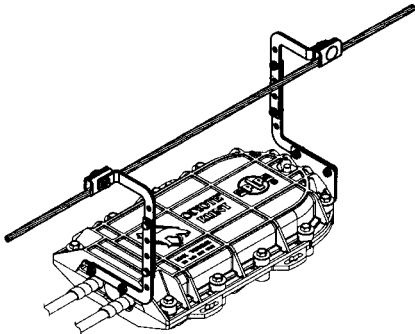

FIGURE 31 - STRAND MOUNT
15.01 The Adjustable Aerial Hanger Bracket Kit (cat. no. 8003467) is used to attach the closure to a messenger strand. (Figure 31)